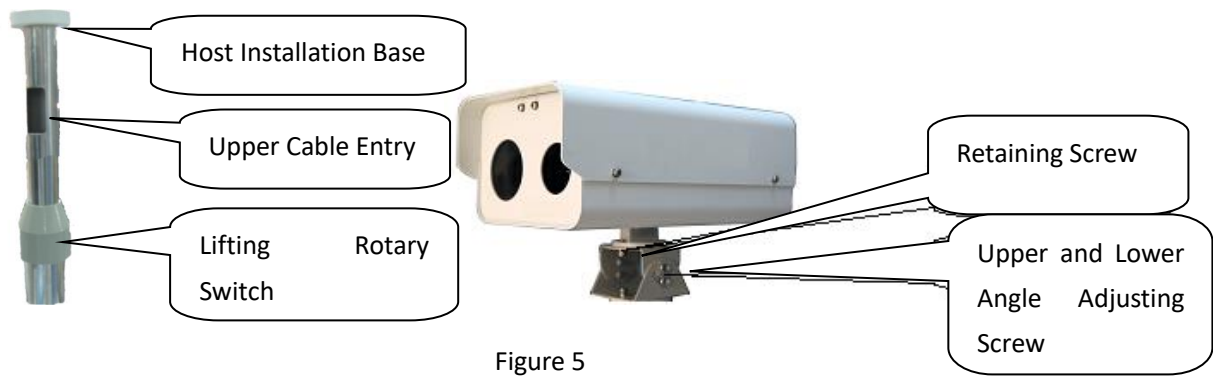

Figure 5
3. Fix the host in the ancillary to the host bracket, as shown in Figure 5.
4. Take out the host and universal joint from the accessories, and install them as shown in Figure 5. After installation, fix the host on the host bracket.